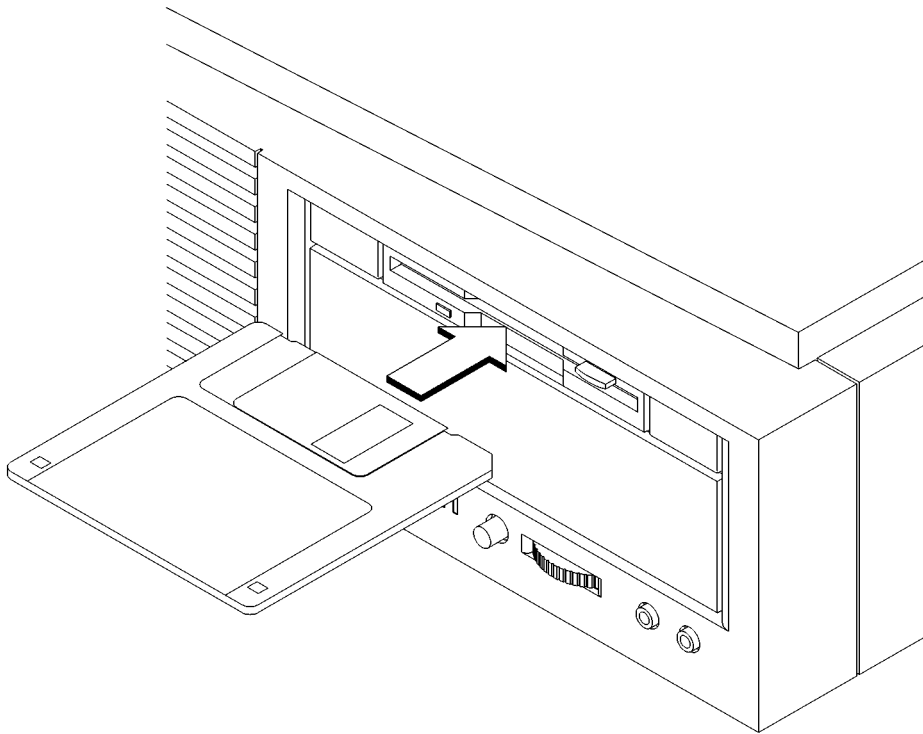

Figure 18
- 1 Insert the diskette into the drive, as shown in Figure 18.
- 3 To remove the diskette, push the eject button (Figure 18), then take out the diskette.